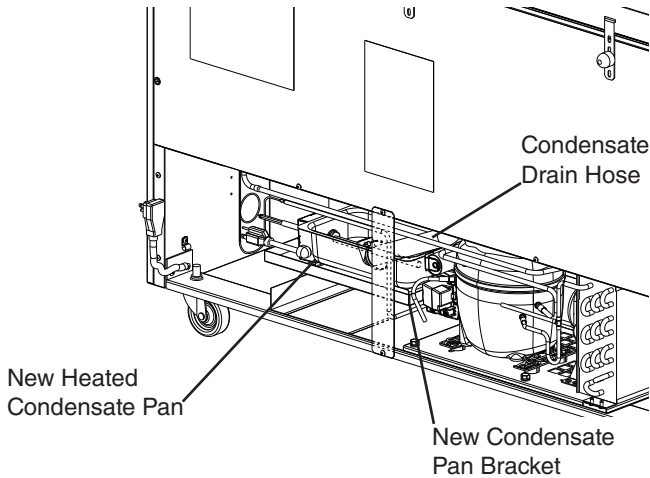
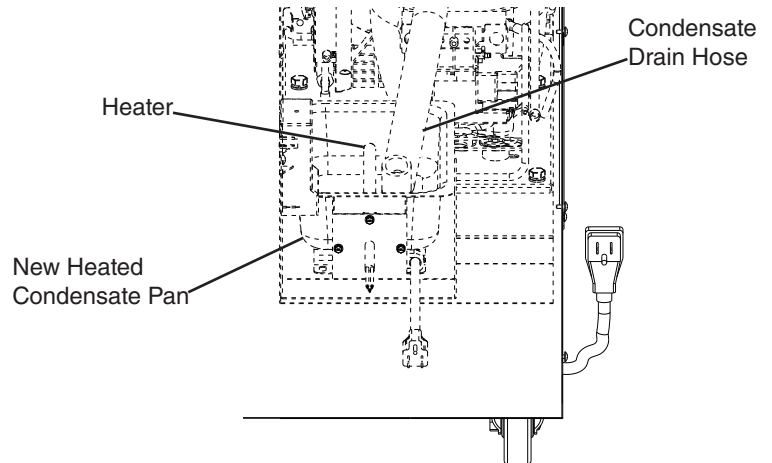

Fig. 11
Fig. 12
- 7) Place the new heated condensate pan on the base of the new condensate pan bracket. See Fig. 11. Note: When placing the heated condensate pan into position, be sure that the elbow nor the new condensate drain hose make contact with the heater. See Fig. 12. (Adjust as necessary).